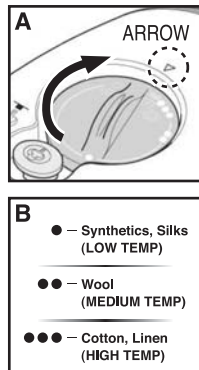

FIGURE 3
2. Turn Temperature Control Dial clockwise so that small arrow (Δ) on Hand Grip (FIGURE 3-A) points to one of three heat settings on Dial (FIGURE 3-B). Heating Indicator Light will illuminate.